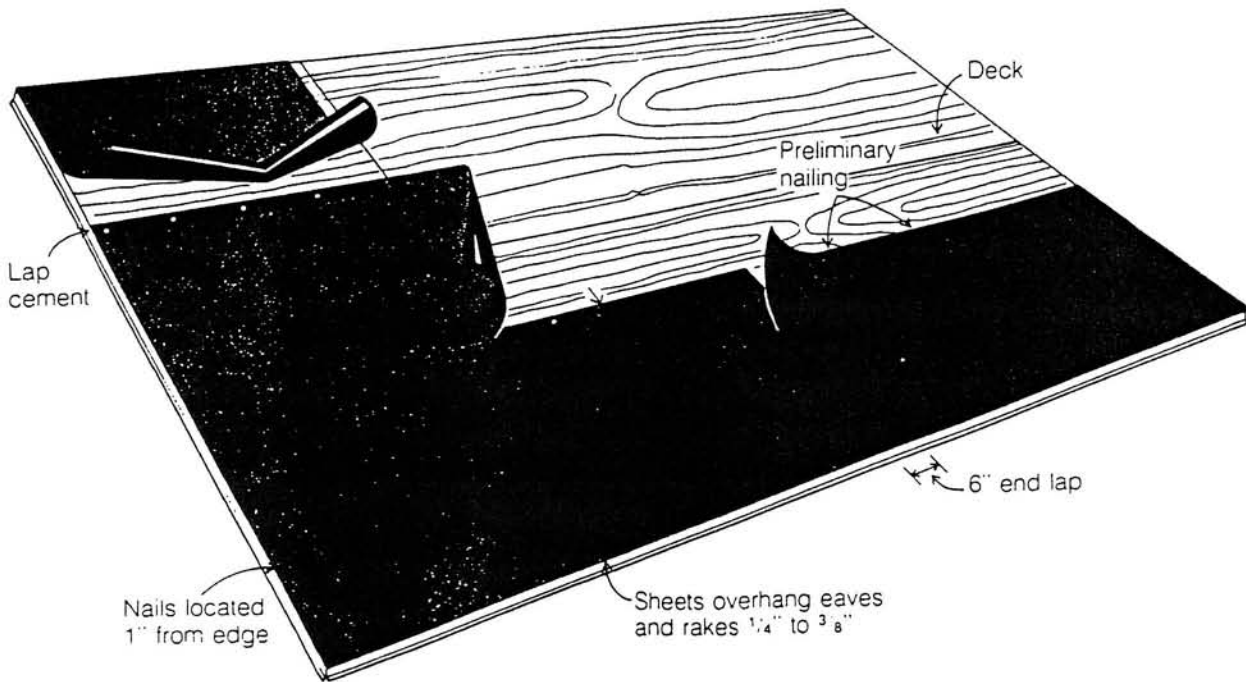

Figure 60: Exposed nail method of applying roll roofing parallel to the eaves
**EXPOSED NAIL METHOD.** Figure 60 illustrates the general installation procedure, including lapping, cementing and nailing.